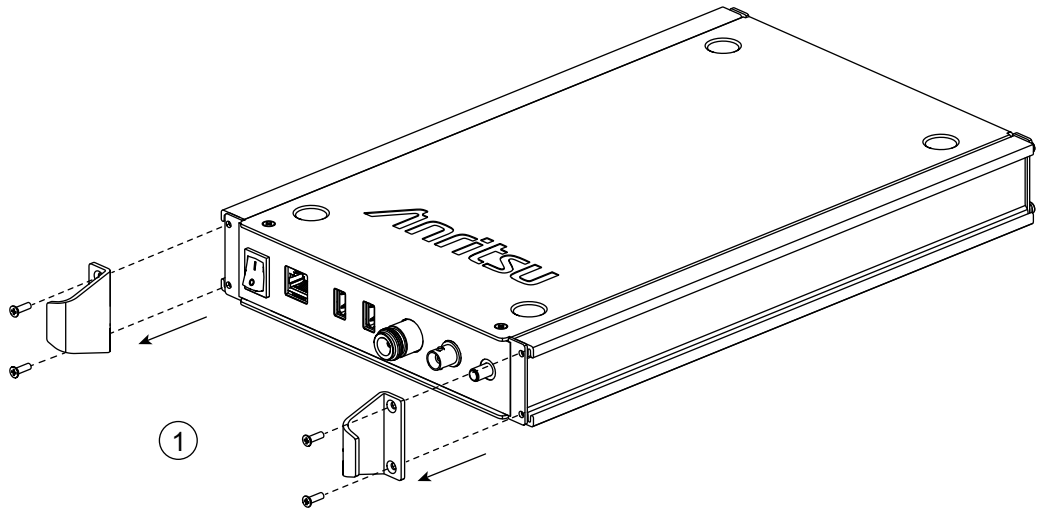

Figure 1-3. Preparing the MS27101A for Single Unit Rack Mounting
1. Prepare the MS27101A by removing the front panel handles as shown in Figure 1-3. Retain the screws.